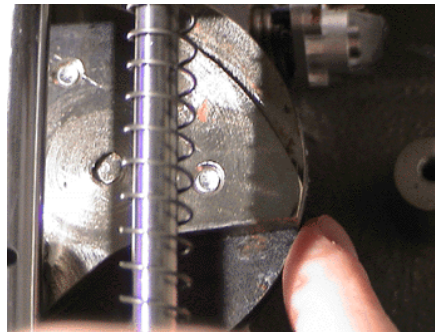

Figure 7-18
3. Locate the take-up lever cam. If you look directly at the front of the machine, you will be able to see the right half of the cam. Please note that your view will be slightly different than the view in *Figure 7-18*; the needle case was removed for illustration purposes.